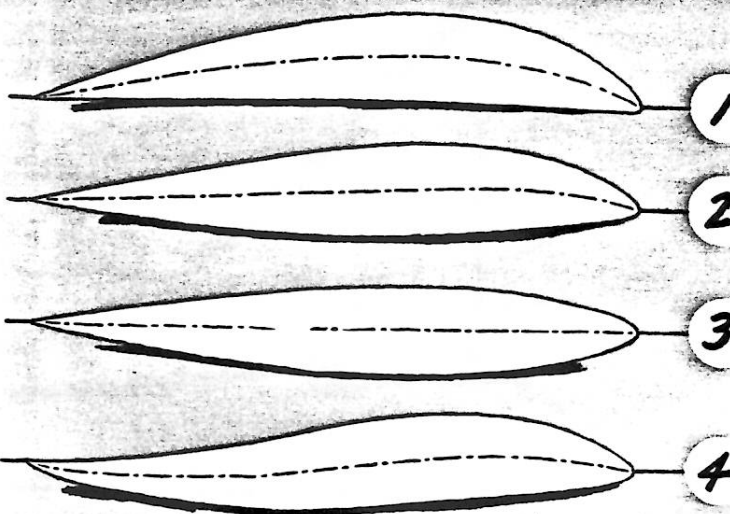

Fig. 2-2 Airfoil types.
The airfoils in Figure 2-2 show a range of types, the most cambered median-line (top example) indicative of the highest lifting power (CL) of the group. For comparison, the various median lines are all wrapped with the same streamline-function of about 15 percent thickness.